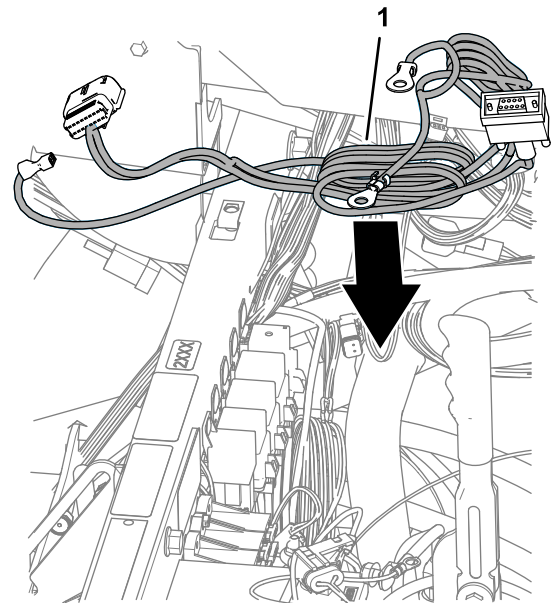

Figure 186
1. Align the modem power harness to the machine as shown in Figure 186.